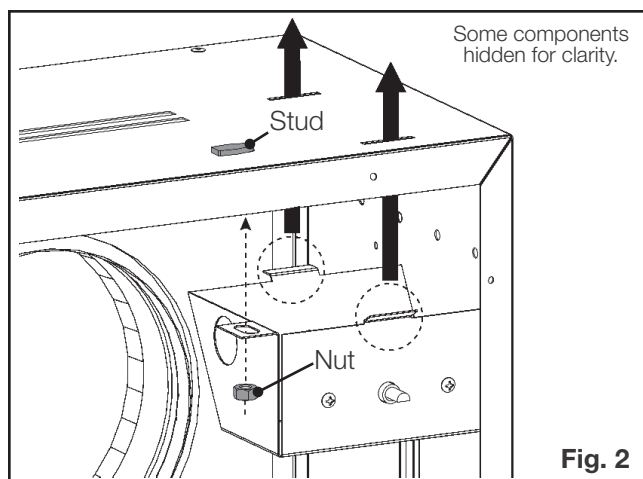

Fig. 2
16. Install the on/off switch housing into the blower kit housing by inserting the tabs into the slots (**Fig. 2**). Tighten the nut onto the stud.